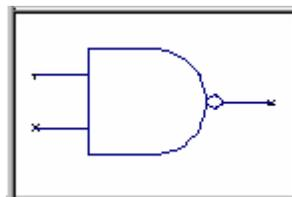

Fig.3.5 Symbol Structure
**Symbol name** e.g. NAND is shown in Fig.3.5.